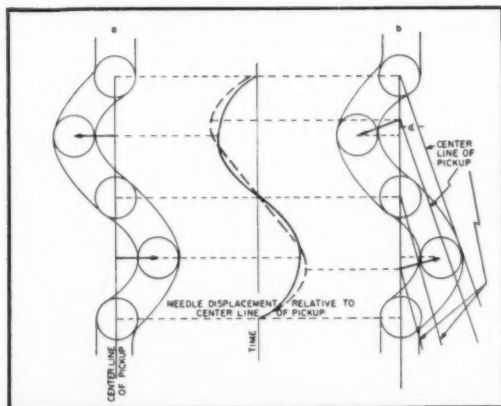

Fig. 2. Distortion caused by tracking error. Arrows indicate maximum stylus displacement relative to pickup.
It is evident that an arm which maintains tangency well due to its offset design may actually produce more side thrust than an arm with greater tracking error, and distortion generated by non-tangency cannot be laid primarily at the door of improper seating of the stylus in the groove. Even if the arm holds the pickup at an angle to the groove tangent, the stylus may follow the groove convolutions without error. Stylus motion in an oblique, pickup however, will not be perpendicular to the groove, and instantaneous stylus displacement relative to the longitudinal axis of the pickup will not correspond to the recorded signal. Figure 2 shows consecutive positions of styli in two identically modulated grooves. In (A) there is no tracking error. Displacement of the stylus relative to the pickup, plotted against time, is a copy of the groove's wave form. In (B), with the stylus tip still following the groove, a tracking error of α results in a distorted shape of the same graph. As can be seen, maximum stylus displacement relative to the center line of the pickup occurs first too soon and then too late within the recorded period. Maximum stylus displacement across the pickup is also greater in amplitude than maximum displacement relative to the center line of the groove.